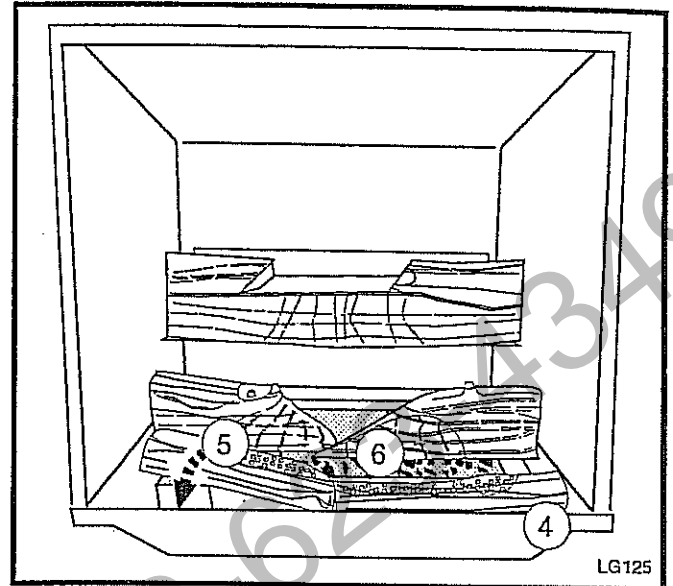

Fig. 58 Install the ember logs, and the lava rocks.
4. Push the burner assembly fully toward the rear, by hand. Place the two front Ember Log sections (4 & 5) in the slot at the front of the firebox, shown in Figure 58. Reposition the burner tray fully forward against the Ember Logs.
5. Loosely sprinkle some of the Lava Rocks sparingly on top of the burner between the Ember Logs and the Middle Logs. Do not place any lava rocks behind the middle logs. See 6, Fig. 58.